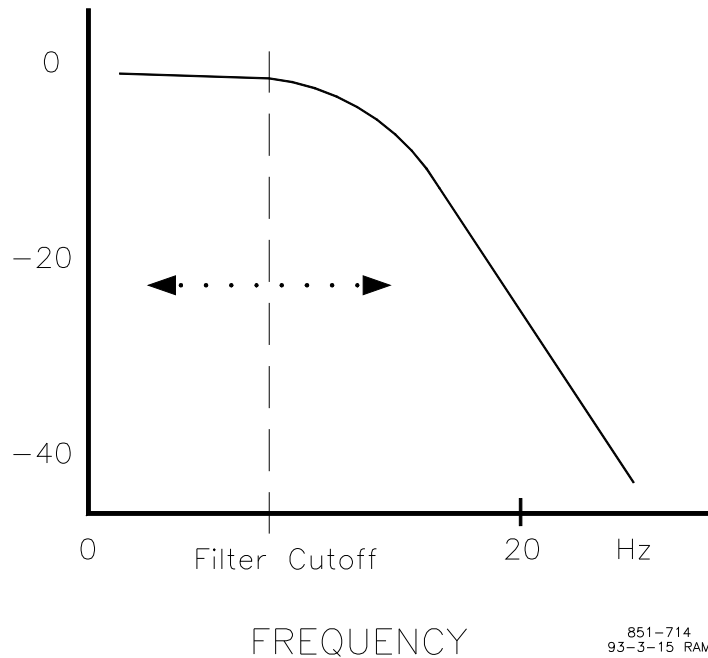

Figure 3-5. Speed Filter
9. **SS1 SPEED FILTER** adjusts the cutoff frequency of a low pass filter used on the engine speed sensing input (see Figure 3-5). To use this feature set the cutoff frequency below 15.9 Hz. The filter is used to attenuate engine firing frequencies. To calculate the desired filter cutoff point, use the following formulas:
10. **SS2 SPEED FILTER** adjusts the cutoff frequency of a low pass filter used on the turbo speed sensing input (see Figure 3-5). This filter is used to attenuate the turbo speed input separately from the engine speed input. The filter is activated during configuration by setting USE TURBO MPU to TRUE in the CFIG Speed Control menu. To use this feature set the cutoff frequency below 15.9 Hz. Normally attenuation of the turbo speed signal will not be necessary. However, some noise attenuation may be needed.